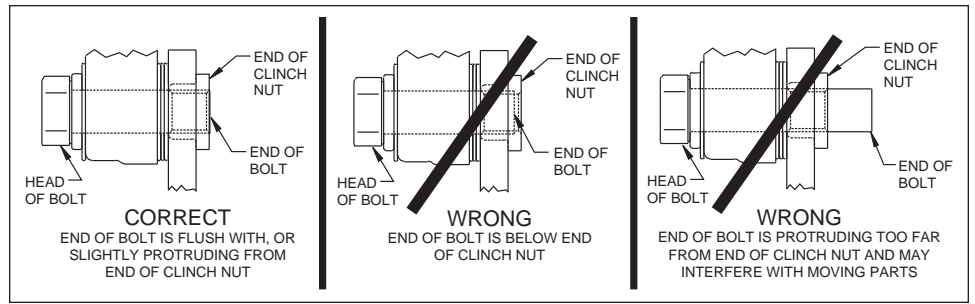

Figure 5. Clinch Nut Engagement Diagram
Assembly Instructions (numbers in parenthesis refer to the parts list, and Figure 1 on the preceding pages): **CAUTION:** All mounting bolts must fully engage clinch nuts. Be sure to check that all bolts are either flush or protruding through flanged side of clinch nut after shimming, Figure 5.
•**NOTE:** Please reference the caution statement at the beginning of the assembly instructions. Mount the caliper (9) onto the caliper mounting bracket (1) using bolts (10) and washers (11), as shown in Figure 1. Initially place two .035" thick shims (12) on each bolt between the caliper and the bracket, Photo 5. Temporarily tighten the mounting bolts and view the rotor (6) through the top opening of the caliper. The rotor should be centered in the caliper, Photo 6. If not, adjust by adding or subtracting shims between the bracket and the caliper. Always use the same amount of shims on each of the two mounting bolts. **NOTE:** The end of each bolt must be flush with or slightly protruding from the head of the clinch nut, as shown in Figure 5. If necessary place spare shims between washer (11) and caliper mounting ear to achieve the proper clinch nut engagement. Once the caliper alignment and clinch nut engagement are correct, remove the bolts one at a time, apply red *Loctite*® 271 to bolt threads, and torque to 40 ft-lb.
•Install the disc brake pads (13) into the caliper, with the friction material facing the rotor (6), and secure in place using cotter pin (14), Photo 7.